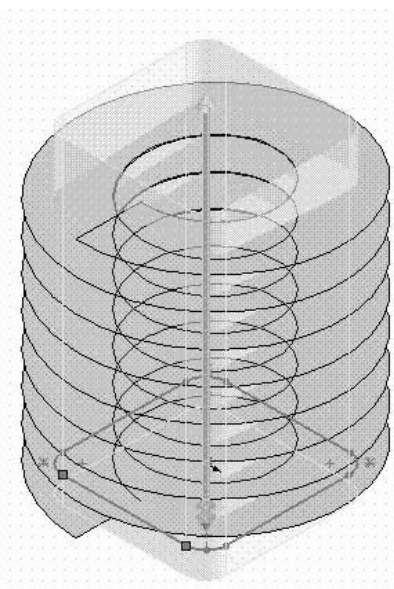

Figure 5 - Preview of the Extruded Surface
12. The preview of the extruded surface is displayed. Select the drag handle to specify the depth of extrusion. Make sure that the extruded surface exceeds the limits of the swept surface on both the directions, as shown in the Figure 5.